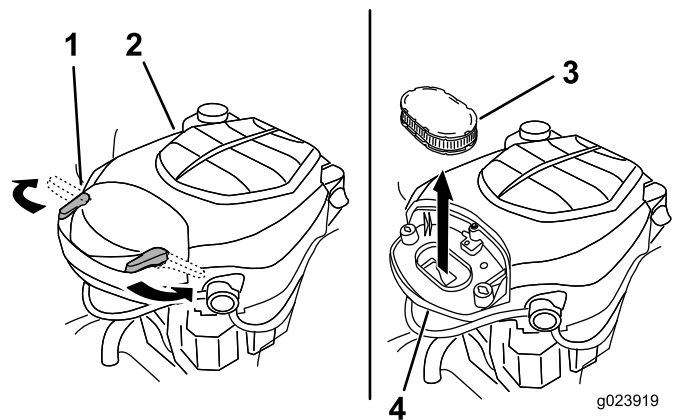

Figure 27
- Remove the cover to access the air-cleaner element (Figure 27).
- Install the cover and secure it with the latches (Figure 27).